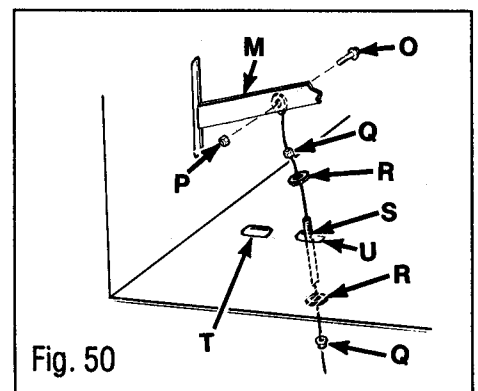

Fig. 50
1. Unhook cable from mower deck and remove screw and nut (P & O, Fig. 50) securing cable to mower blade drive lever.
2. Loosen nuts (Q) securing cable adjusting barrel to tractor. Remove cable.
3. Route new cable up into tractor. 28" and 36" deck cables are routed through front hole (T). 33" deck cable is routed through back hole (U). Secure cable